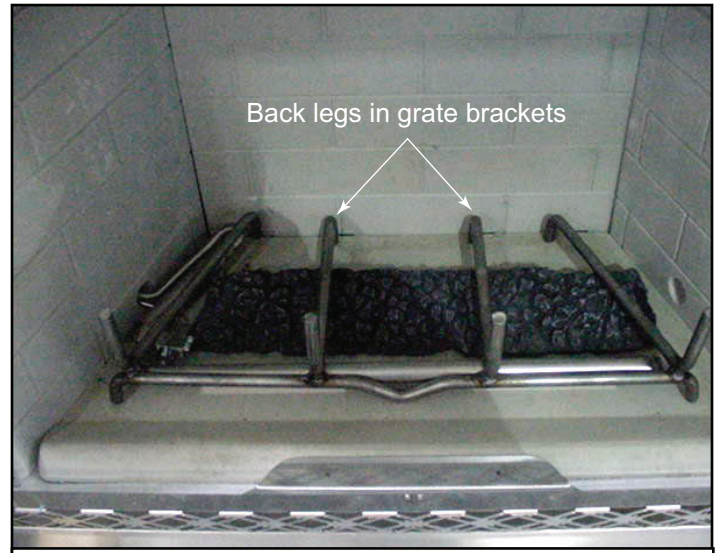

Figure 9.1 Placement of Embers
- Raise grate and place ember bed on floor of firebox (see Figure 9.1). Ensure ember bed does not cover burner.
- Ensure grate assembly is over burner assembly ember bed. Center from left to right. Place back legs in grate brackets (see Figure 9.1)